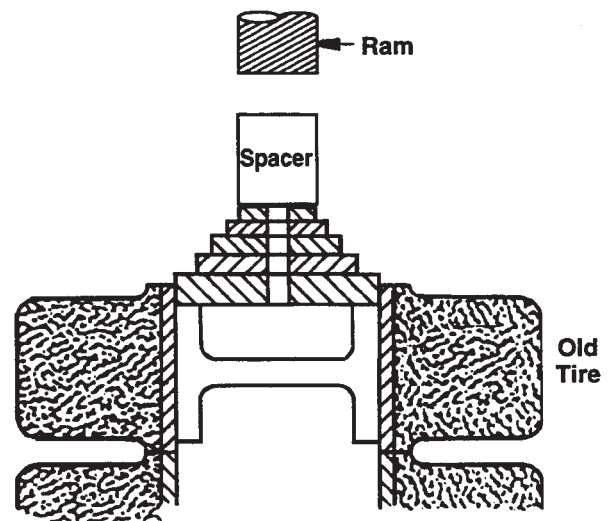

Figure 3
4. Using the pump to generate pressure and extend the ram, press the wheel completely free from the old tire and into the new tire. Refer to Figure 3. Continue pressing until the correct sleeve-surface-to-wheel-surface dimension is achieved (as determined in Step 1).